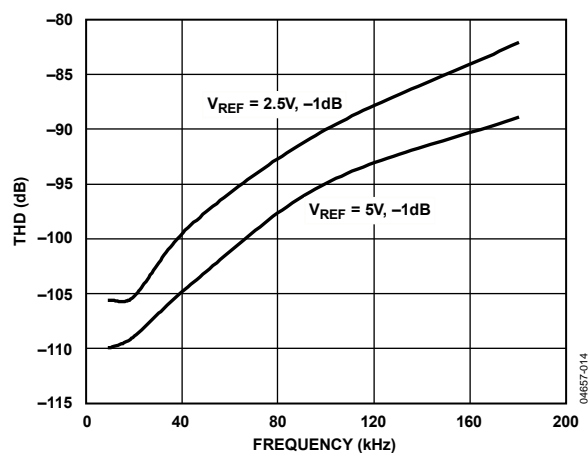

Figure 14. THD vs. Frequency
- For ac applications, the driver needs to have a THD performance suitable to that of the AD7942. Figure 14 gives the THD vs. frequency that the driver should exceed.